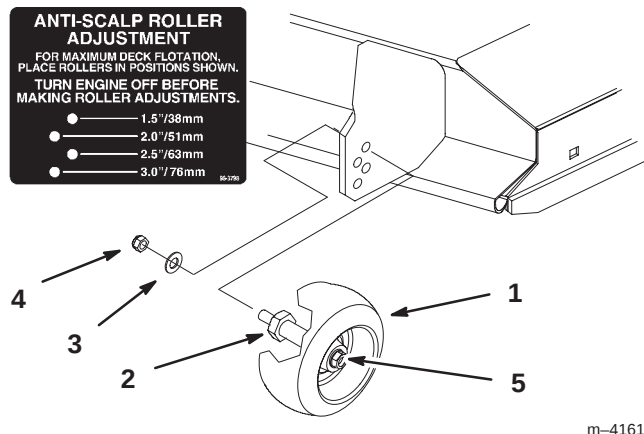

Figure 21
2. After adjusting height-of-cut remove flange nut and spring disk while holding stud with wrench (Fig. 21).
Note: Do not remove the wheel nut and washer (Fig. 21).
3. Select hole so gage wheel is positioned to the nearest corresponding height-of-cut desired (Fig. 21).
4. Reinstall the flange nut and spring disk. Torque to 40–45 ft-lbs. (54–61 N•m) (Fig. 21).